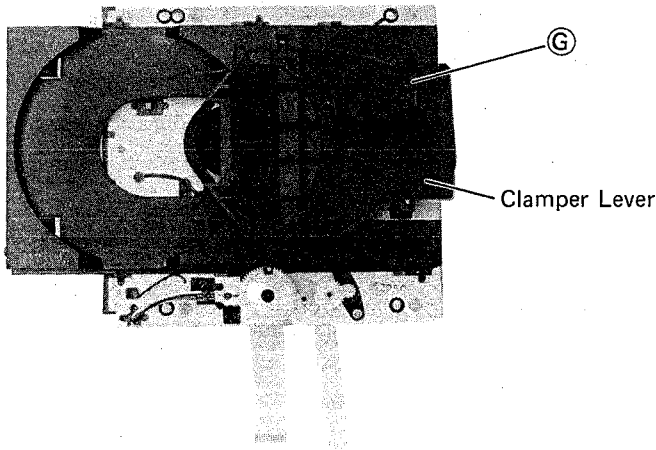

Figure 8
1. Push clamber lever downward and push hook (G) horizontally, and then the clamber lever will be removed. (Figure 8)